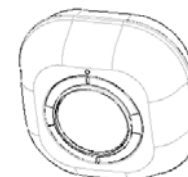
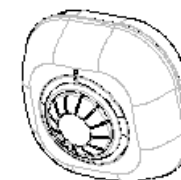

FIGURE 8f
FIGURE 8g
**Note:** For detection of 360 degrees, simply remove wall-lens or ceiling-lens (FIGURE 8f). Loading the full size of ceiling-lens (12 lens segments) will lead to poor movement detection (FIGURE 8g).